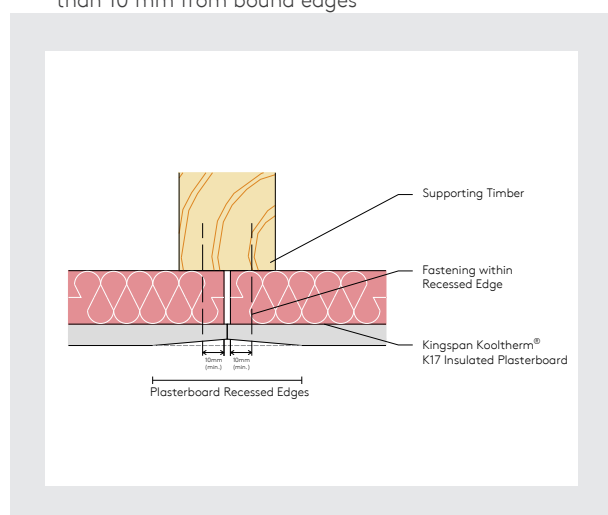

Figure 13
- Kingspan Kooltherm® K17 Insulated Plasterboard should be located centrally over the framing (Figure 13). Kingspan Kooltherm® K17 Insulated Plasterboard should be firmly held against the framing after being cut to allow for a 5-10 mm height clearance.